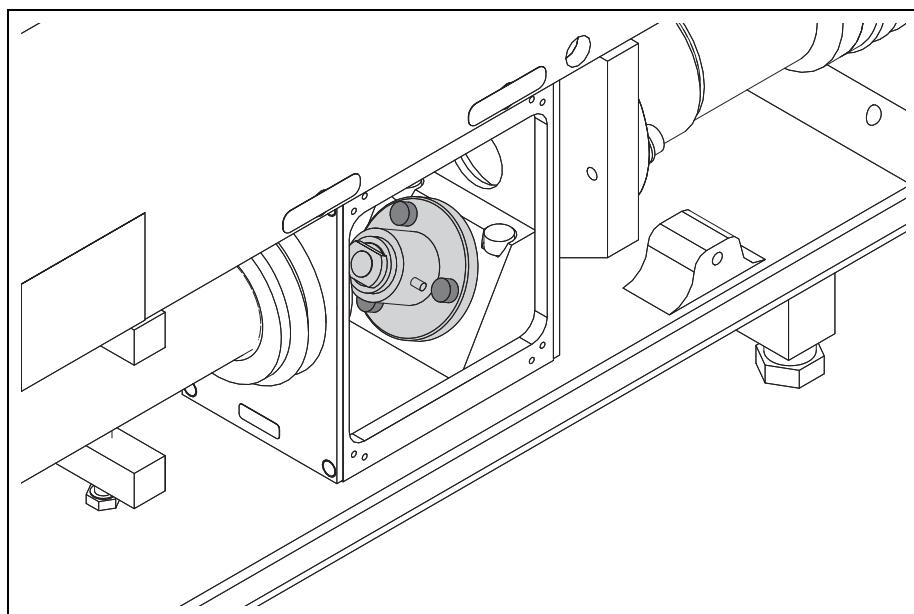

Figure 6.55 Adjustment of the alignment laser
13. Adjust the positioning laser to the center of the marked cross wires using the three adjusting screws (see figure 6.55).